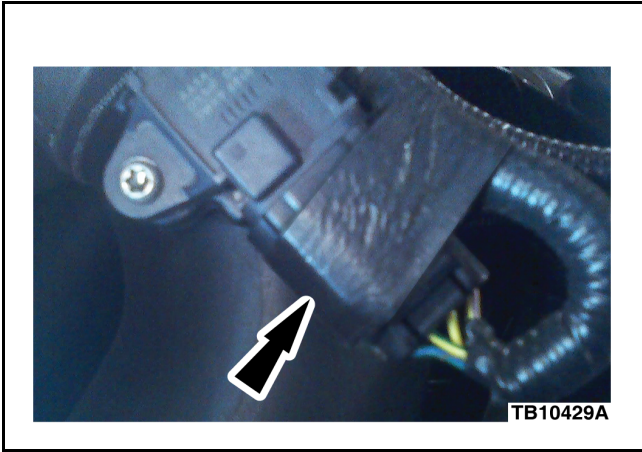

Figure 2 - Article 13-10-10
6. Using electrical tape, retain the harness to the connector shell with enlarged loop. (Figure 2)